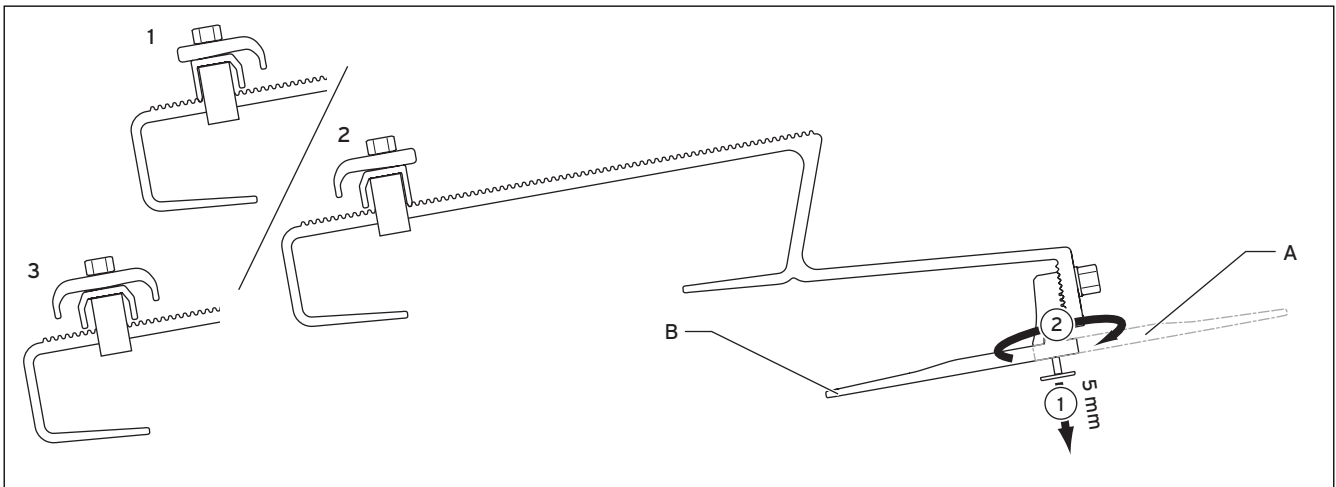

Fig. 5.3 Bracket type P
2. Position the bracket. Take note of the correct positions of the upper, central and lower brackets (see Fig. 5.3).
3. Hook the bracket to the roof batten. Take note of the correct positions of the upper, central and lower brackets when doing this (see Fig. 5.3).
4. Position the central nut so that after inserting the anchor upper part the front contact area is on the roofing. Take note of the correct positions of the upper, central and lower brackets when doing this (see Fig. 5.3).